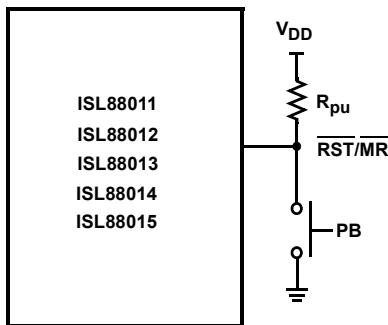

FIGURE 4. CONNECTING A MANUAL RESET PUSH-BUTTON
The manual reset input (MR) allows the user to trigger a reset by using a push-button switch. The  $\overline{MR}$  input is an active-low debounced input. By connecting a push-button directly from  $\overline{MR}$  to ground, the designer adds manual system reset capability (see Figure 4). Reset is asserted if the  $\overline{MR}$  pin is pulled low to less than 100mV for 1 $\mu$ s or longer while the push-button is closed. After MR is released, the reset outputs remain asserted for tPOR (200ms) and then released.